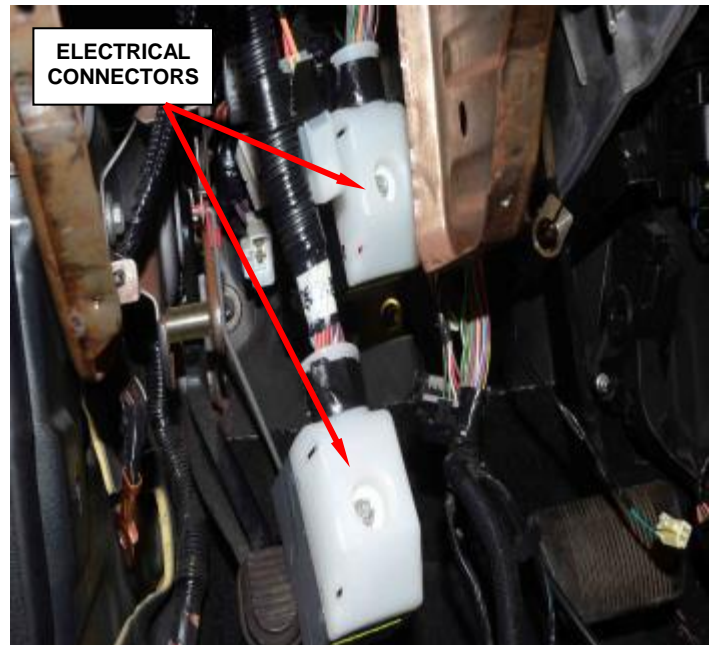

Figure 69 – Electrical Connectors
19. Loosen the screws and disconnect the electrical connectors (Figure 69).